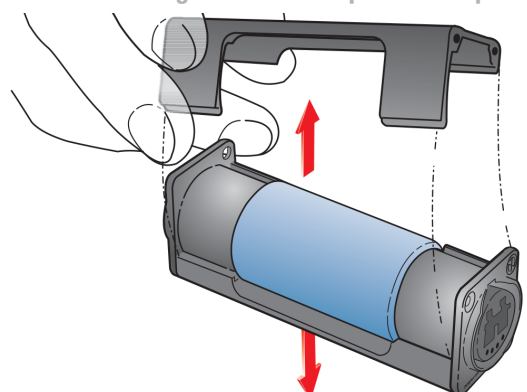

Figure 4-17: Removing top from coupler
- Step 3. Separate top and bottom enclosure pieces. **(Figure 4-17)**